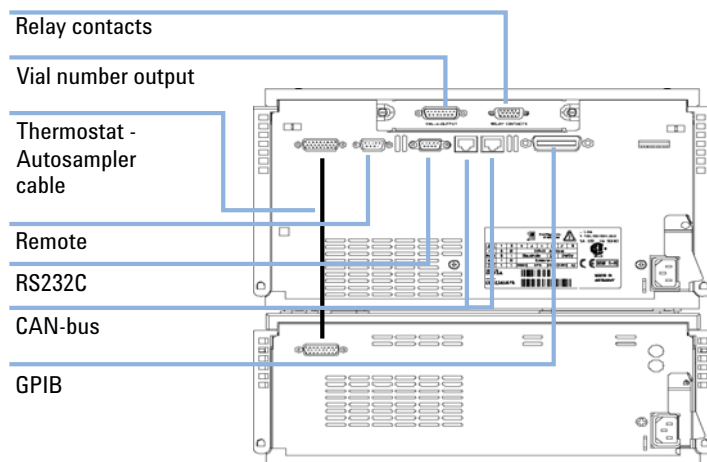

Figure 17 Cable Connections
- 10 Connect the cable between the Autosampler and the Thermostat, see Figure 17 on page 46.